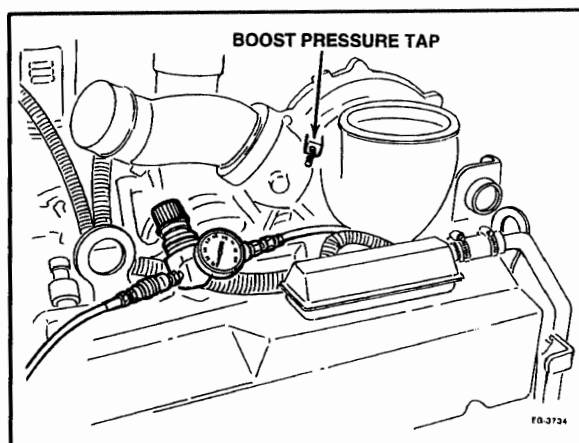

Figure 2.3-16. – Boost Pressure Tap Location and Air Regulator Connection
1. Remove actuator boost line from turbo compressor housing and connect an air regulator with a 0-60 PSI gauge to the actuator boost line. **Figure 2.3-16.**